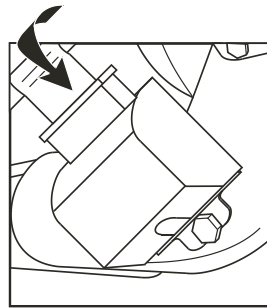

Figure: 4-31 Seat Belt Latch
3. Push the latch plate into the buckle until it clicks. Pull up on the latch plate to make sure it is secure. (See figure: 4-31)